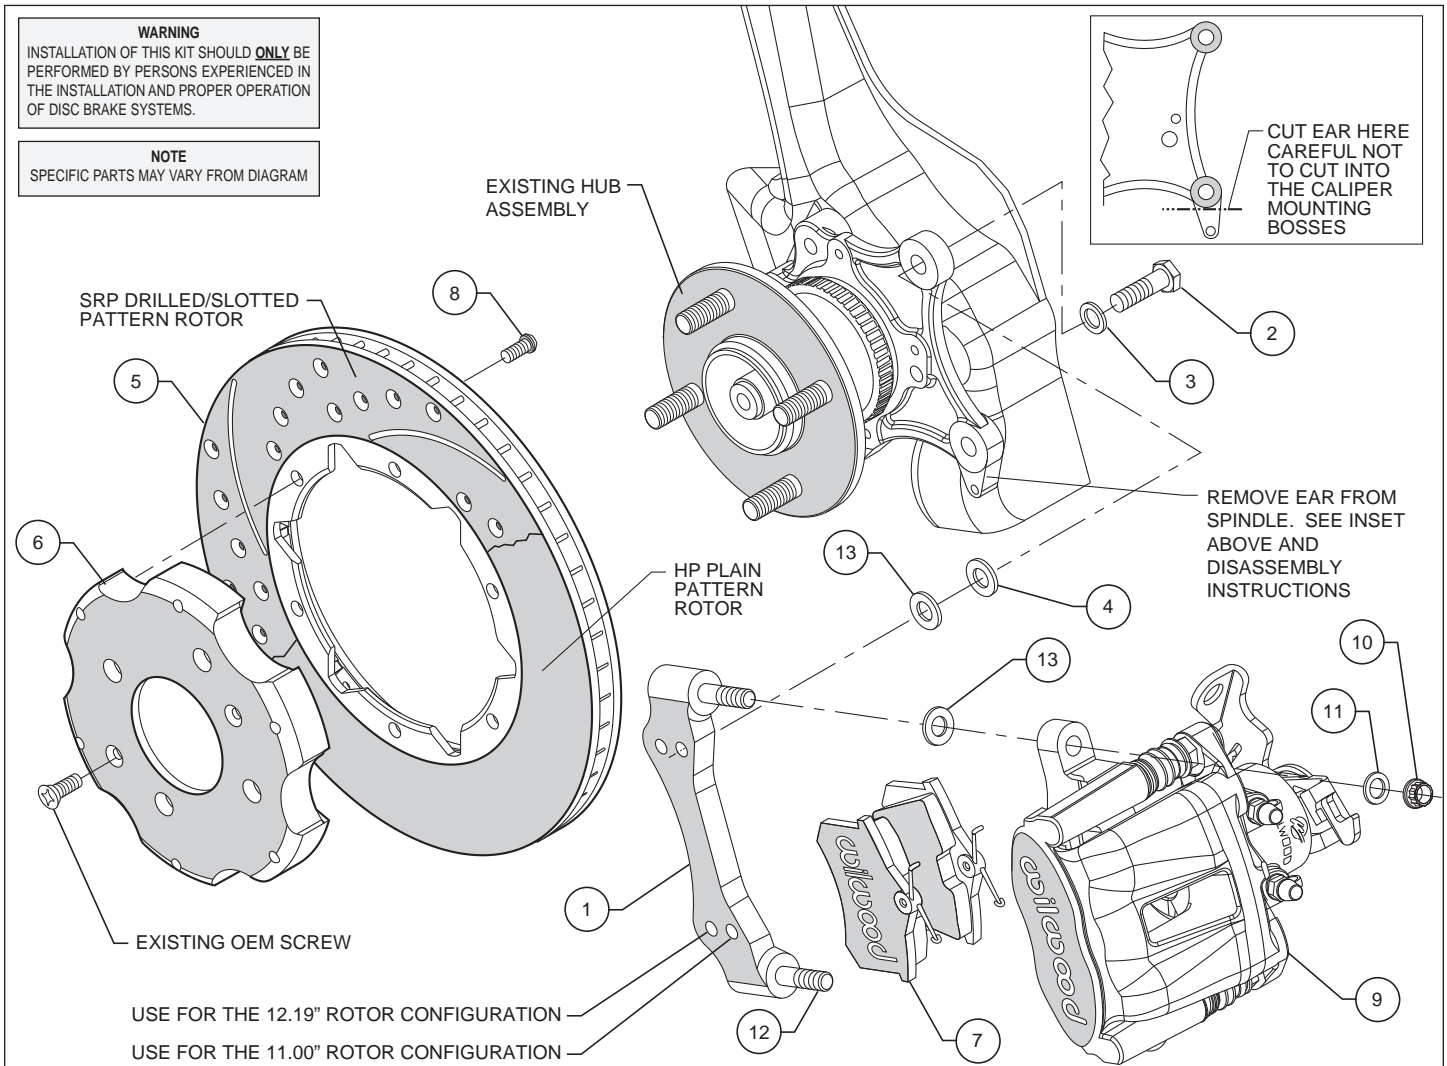

Figure 1. Typical Installation Configuration
• **NOTE:** This modification should be performed and completed before assembly of the Wilwood disc brake kit begins. To properly install the Wilwood caliper bracket, the small mounting ear located by the lower caliper mounting boss must be removed by cutting or grinding as shown in Figure 1 and Photo 2. Remove only enough material to allow flush mounting of the Wilwood bracket to the upright.
• The caliper mounting bracket (1) should be installed first with clean, dry threads on the mounting bolts. Attach the caliper mounting bracket on the outboard side of the upright using bolts (2), washers (3), while placing a .016 inch shim (4) and a .035 inch shim (13) between the caliper mounting bracket and the upright, see Figure 1 and Photo 4. Use two shims between the mounting bracket and the upright during initial trial fitting, see Photo 5. Temporarily tighten the mounting bolts. **NOTE:** The bracket must fit squarely against the mount bosses on the upright. Inspect for interference from casting irregularities, machining ridges, burrs, etc.
• Orient the rotor (5) and hat (6) as shown in Figure 1 and Photo 6. Attach the rotor to the hat using bolts (8). Using an alternating sequence, apply red *Loctite*[®] 271 to the threads, and torque to 25 ft-lbs.
- Lubricate the caliper mounting studs with lightweight oil. Install two .035 inch shims (13) on each stud (12), on the radial mount bracket (1). Slide on the caliper (9) and temporarily tighten the washer (11) and lock nut (10), see Figure 1 and Photo 8. The caliper bleed screw should be pointing toward the rear of the vehicle. View the rotor (5) through the top opening of the caliper, the rotor should be centered in the caliper, see Photo 9. If not, adjust by adding or subtracting .016" shims (4) and/or .035" shims (13) as necessary between the caliper mounting bracket and the axle hub to center the caliper on the rotor.